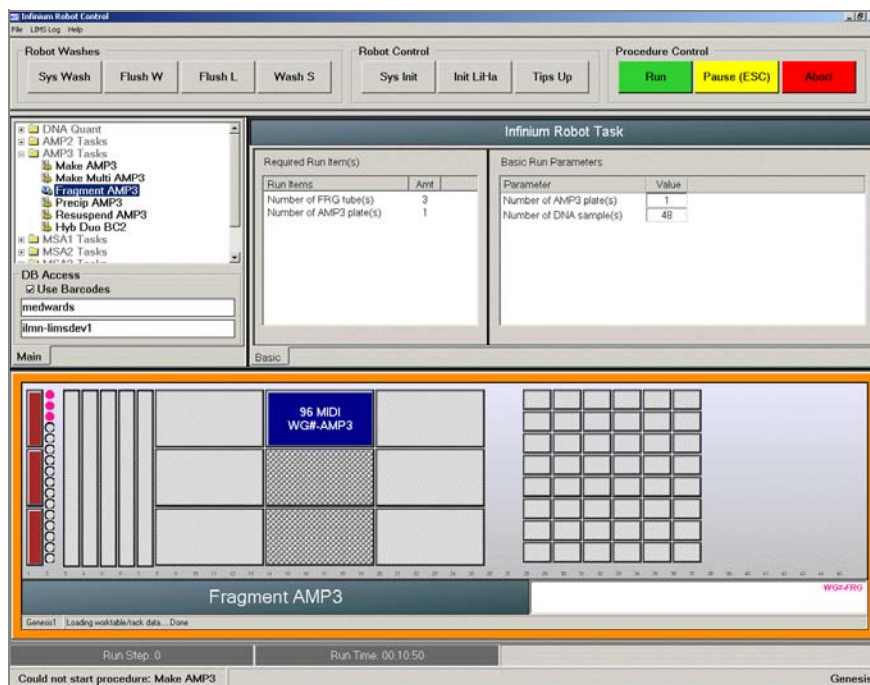

Figure 113 Fragment AMP3 Screen
4. Remove any plate seals. Place the AMP3 plate on the robot bed according to the robot bed map (Figure 113).